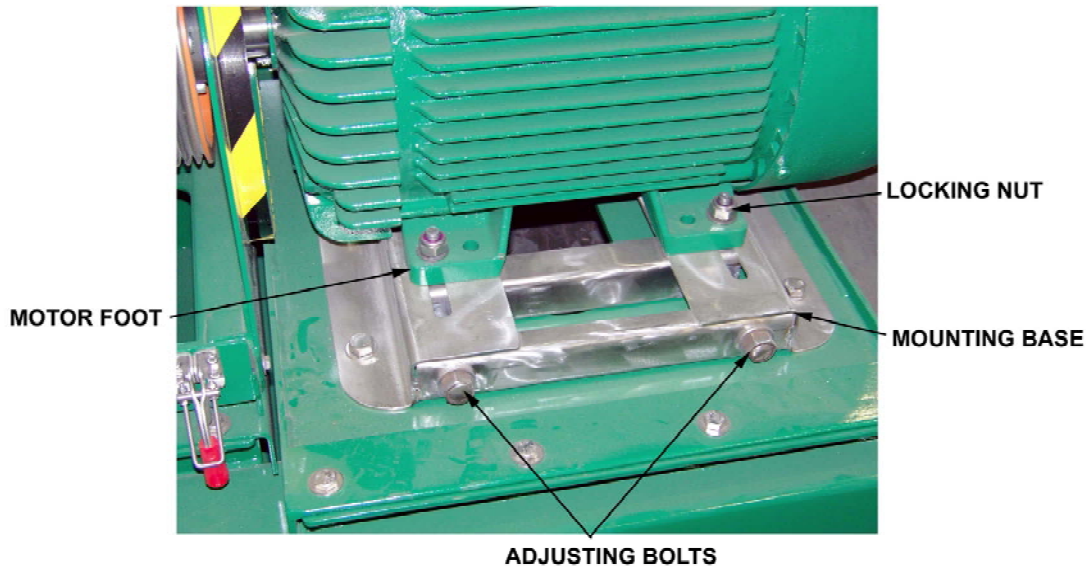

Figure 5-2 Drive Belt Tensioning
3. Loosen locking nuts securing bowl drive motor feet to base (Figure 5-2), turn adjustment bolts counterclockwise to loosen belt, and slip belt off sheaves.